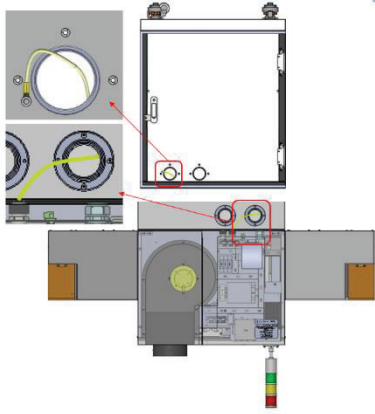

Figure 29.
2) The conveyor may be grounded by using the reserve grounding wire. (Figure 28.) If the cabinet is in use, the grounding wire can be connected to the grounding column in the cabinet. (Figure 29.)